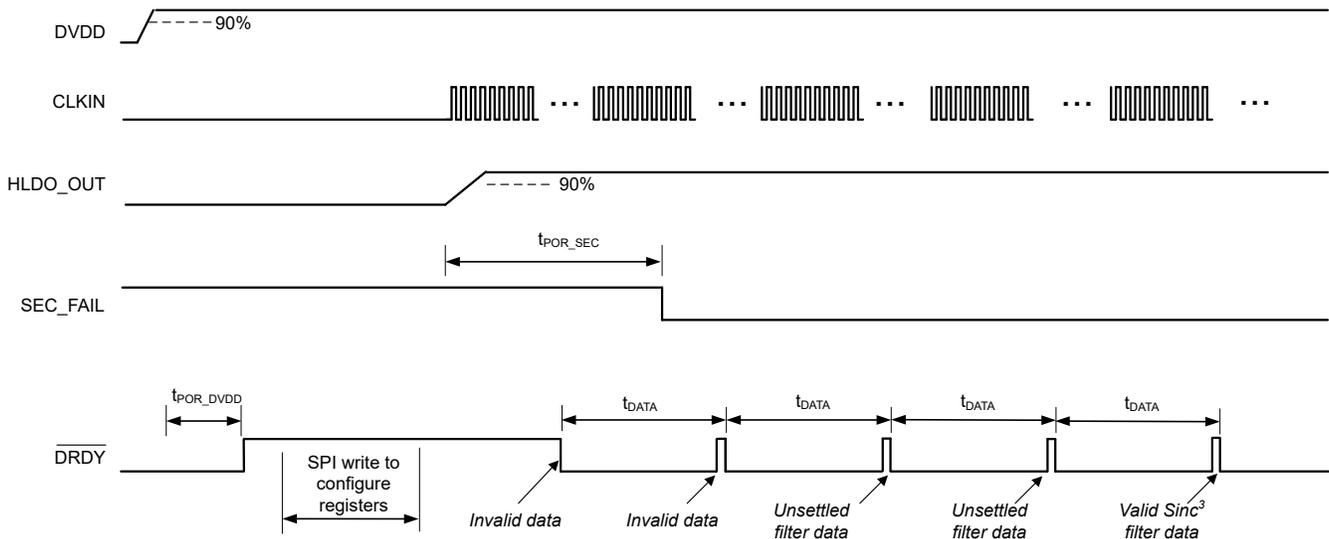
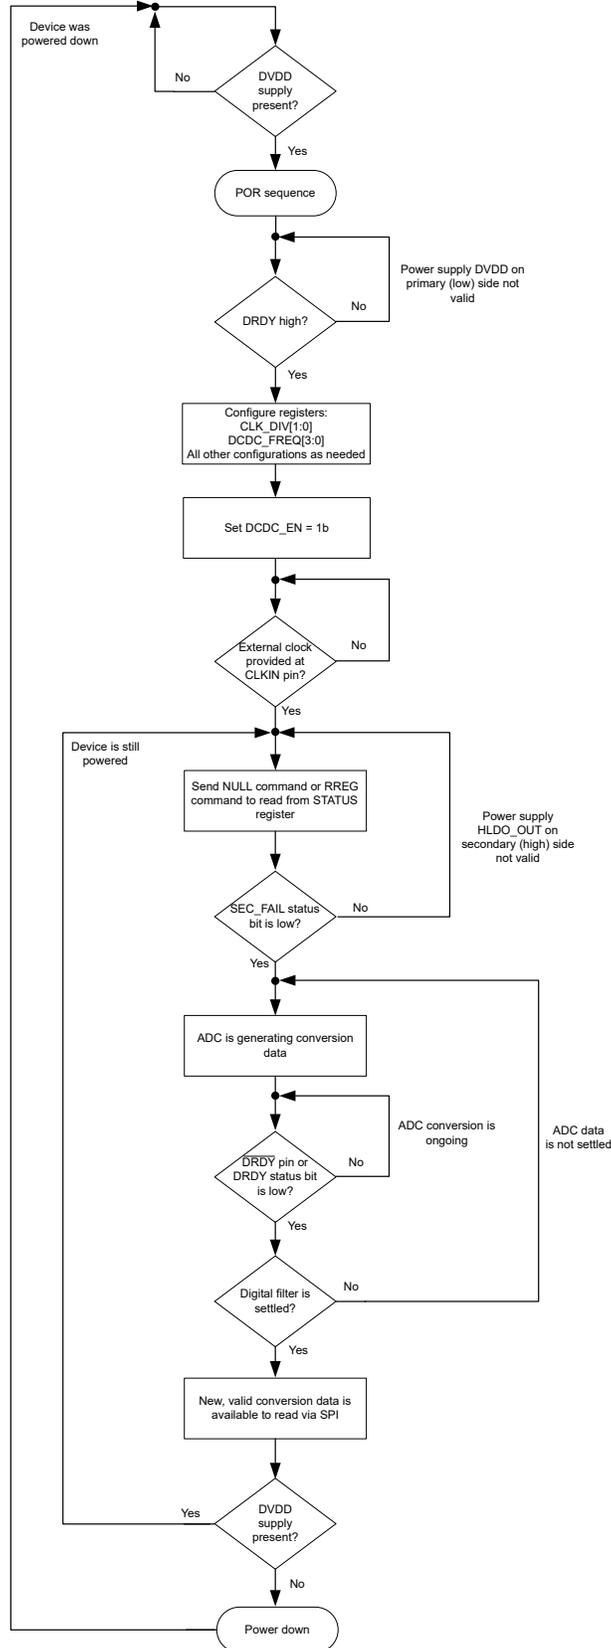

Figure 8-16. Start-Up Behavior at Power-Up and Settling Times, OSR = 1024
Figure 8-17. Flow Diagram for Start-Up Procedure at Power-Up
A recommended procedure for powering up the AMC130M02 is described in this section. Figure 8-16 depicts a timing diagram for the device behavior when this recommended sequence is used. Figure 8-17 provides a flow diagram that displays the recommended sequence in a graphical form.
- The high-to-low transition of $\overline{\text{DRDY}}$ indicates that new conversion data are available. As given in Figure 8-16, ADC data are only valid if the SEC_FAIL reads 0b during the conversion period. The first two conversion results shown in Figure 8-16, represent invalid data.
- When the ADC generates valid data, the digital filter must settle, as described in the SINC³ and SINC³ + SINC¹ Filter section. Two subsequent conversion results illustrated in Figure 8-16 are unsettled (assuming OSR equals 1024), and the last conversion result shown provides valid and settled data.
In Figure 8-16, $t_{\text{POR_SEC}}$ is the time from enabling the DC/DC converter to the first falling edge of the SEC_FAIL bit, which indicates that the secondary power supply at the HLDO_OUT pin is stable. $t_{\text{POR_DVDD}}$ is the time from DVDD supply at 90% to $\overline{\text{DRDY}}$ first rising edge.